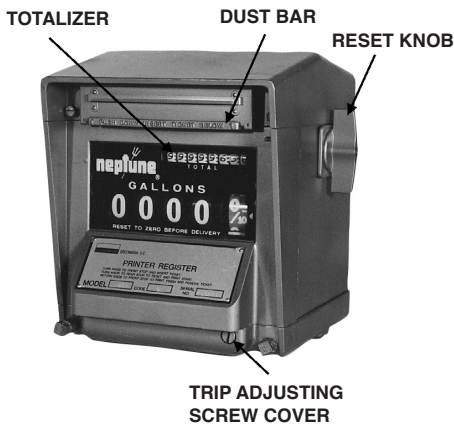

FIGURE 3
2. To prevent register creep, reset register to zero by turning operating knob to the rear stop. On Printer models (800 Series Register), first insert ticket. (See Figure 3.)
To insert a ticket be sure that the reset knob is turned forward to a stop. Then depress the dust bar above the ticket slot (see Figure 3), and insert ticket either "face down, bottom end first" or "face up, top end first" as noted on instruction plate. Turn reset knob backward to stop. This resets the visible wheels to zero, locks the ticket in place, and prints the initial reading on the ticket. (Ticket now cannot be removed without tearing it.)